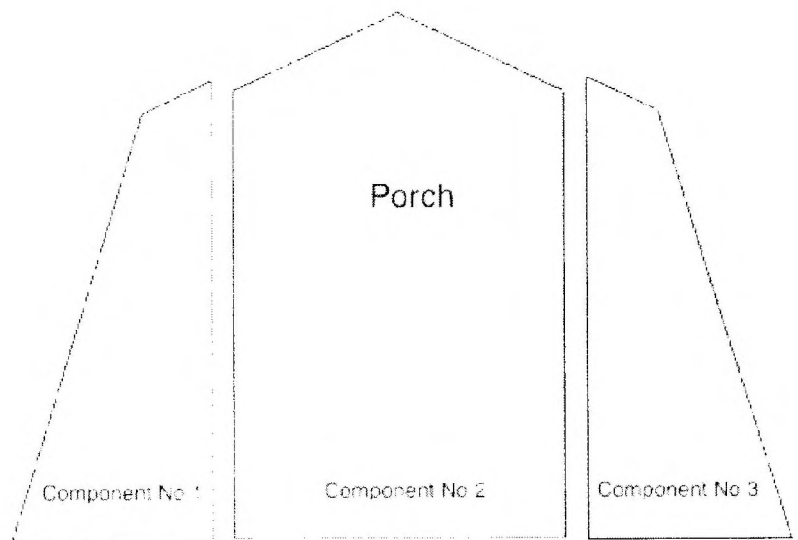

Figure 47: The Mk 4 Insulation end panel (Viewed from inside)
52. The Mk 4 Insulation end panel consists of 4 items per end and are shown in Fig 47, viewed from the inside (J11/8340-99-226-2816).